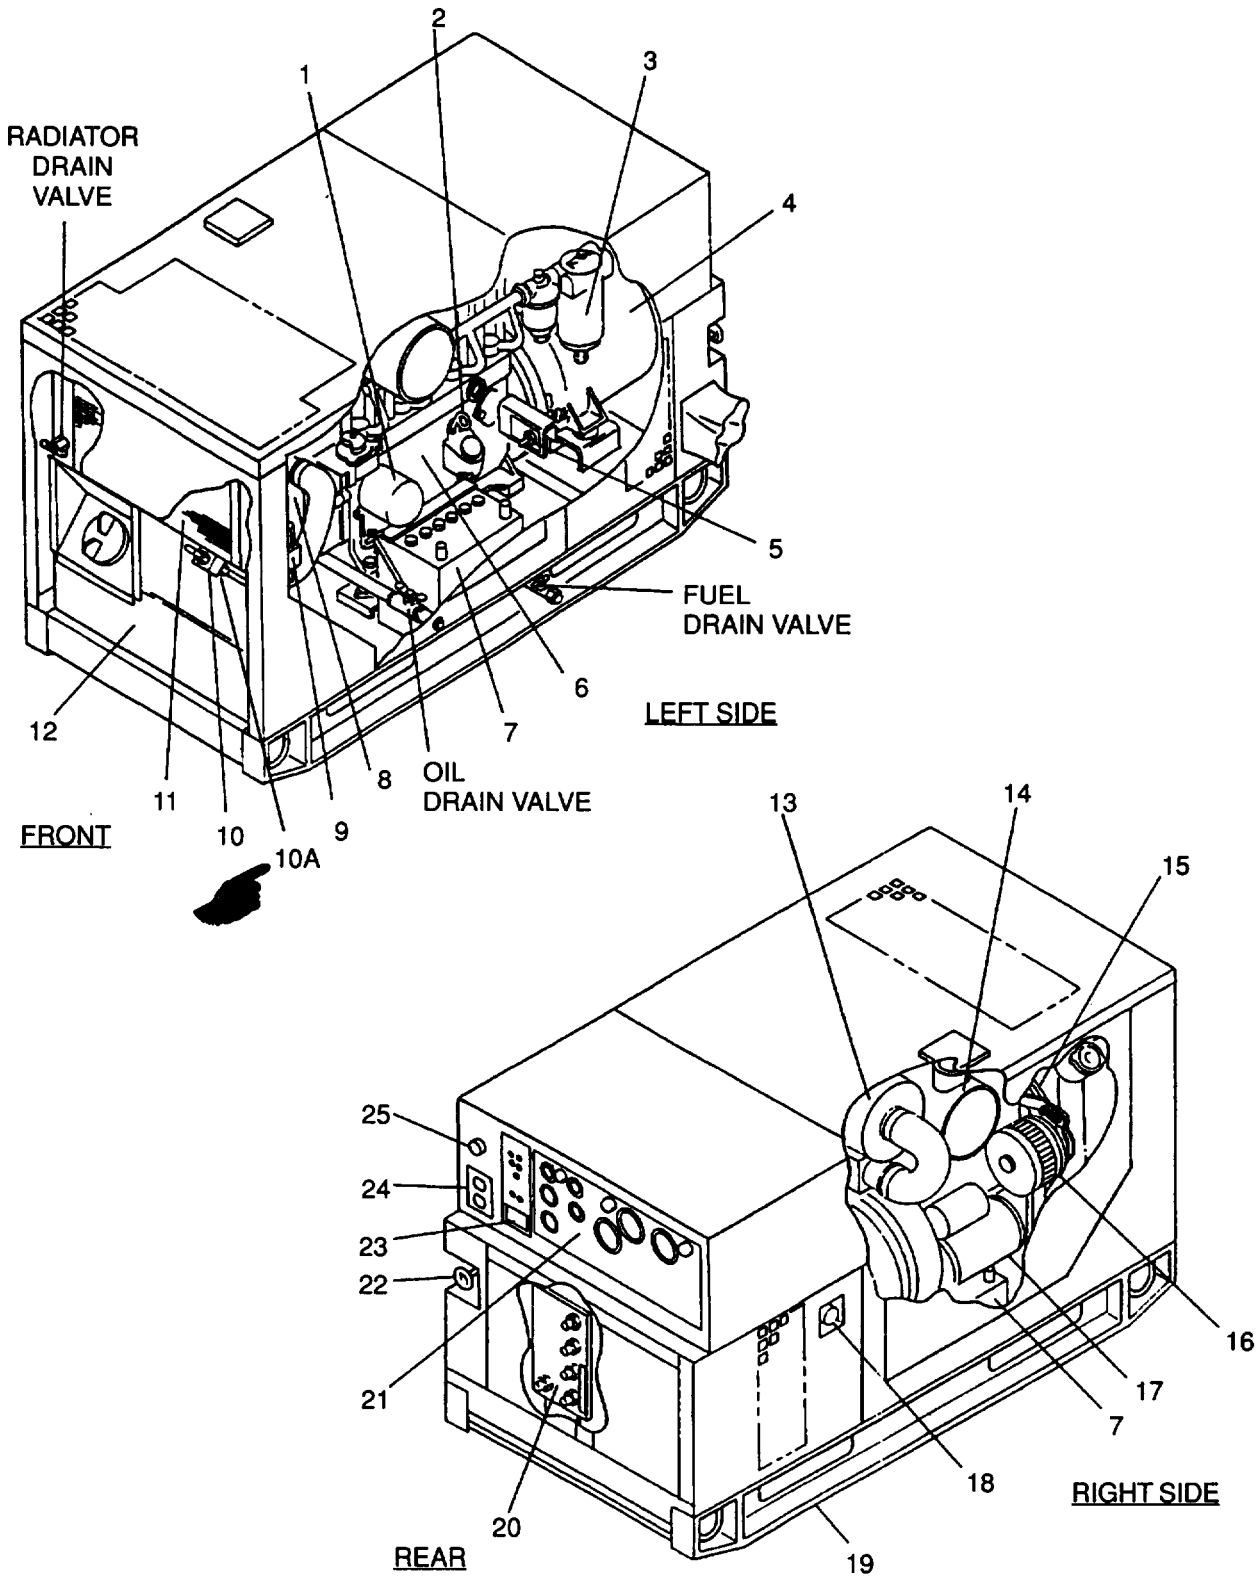

Figure 1-12. Generator Set Components
All locations (Figure 1-12) referenced herein are given facing the control box side (rear) of the generator set.
- b. Check that radiator drain valve (Figure 1-12) is closed.
- a. Check that fuel drain valve (Figure 1-12) is closed.
- b. Open left side engine access door. Open oil drain valve (Figure 1-12) and drain oil.